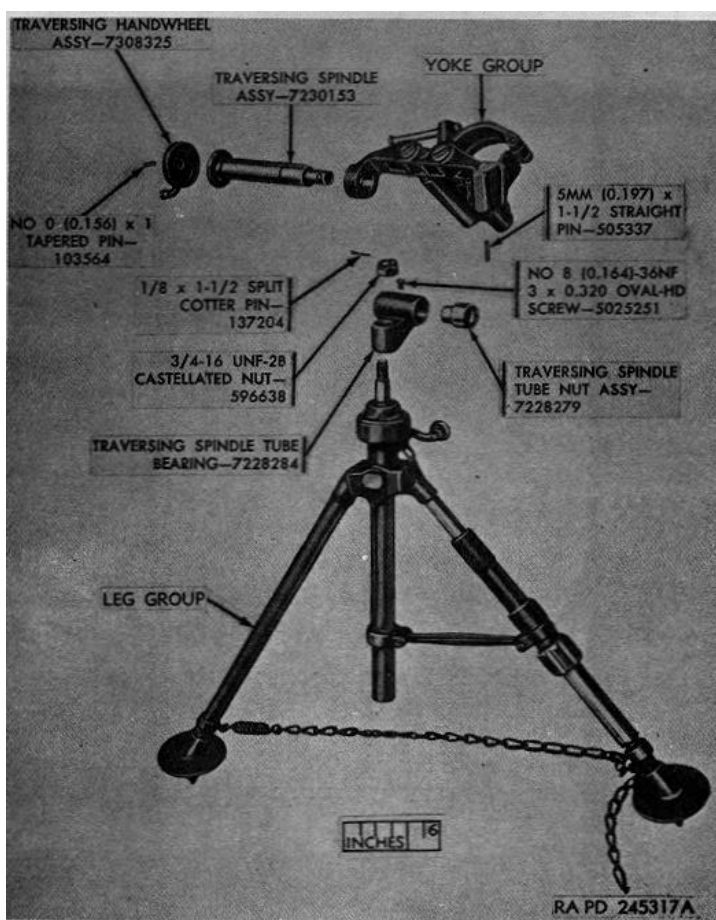

Figure 32. 81-mm mortar mount M4.
a. Remove cotter pin and unscrew castellated nut (fig. 32). Remove leg group from traversing spindle tube bearing (fig. 32) by carefully tapping it with a soft metal hammer.
- c. Insert threaded end of leg group through traversing spindle tube bearing (fig. 32), and secure with 3/4-16UNF-2B castellated nut and 8 x 1 1/2 split cotter pin.
k. Insert threaded end of leg group through traversing spindle tube bearing and secure with 3/4-16UNF-2B castellated nut and 1/8 x 11/2 split cotter pin (fig. 32).
a. Drive out tapered pin that secures traversing handwheel assembly to the traversing spindle assembly and unscrew the handwheel assembly (fig. 32).